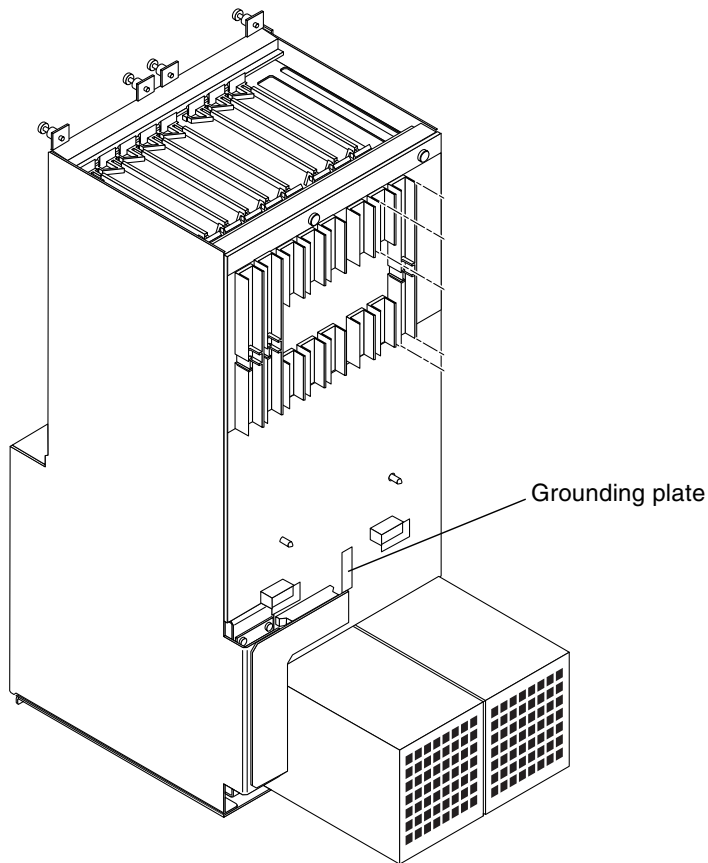

FIGURE 2-7 Installing a Grounding Plate
3. Remove the two screws and install a grounding plate to connect the two studs (FIGURE 2-7).